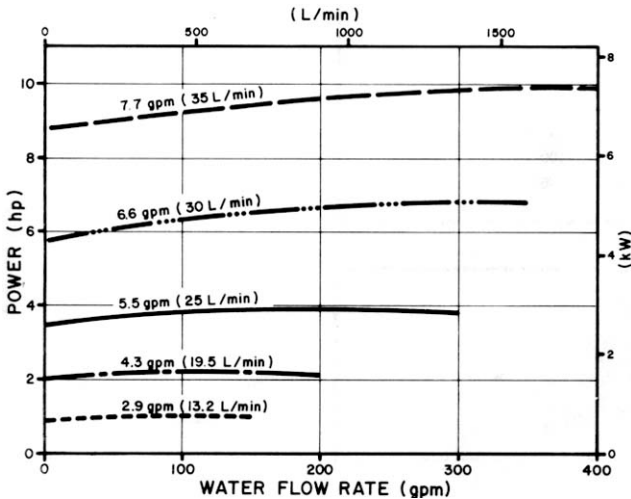

FIGURE 3. Power Requirements to Operate the Lloyd's Model RE-40 Pump at Various Water Flow Rates and Hydraulic Motor Oil Flow Rates.
**Power Requirements:** FIGURE 3 shows the power required to operate the Lloyd's model RE-40 pump at various water flow rates and hydraulic motor oil flow rates. Increasing hydraulic motor oil flow rate increased the power required to operate the pump. Maximum power required to operate the pump at a 7.7 gal/min (35 L/min) hydraulic motor oil flow rate was 10.0 hp (7.5 kW).